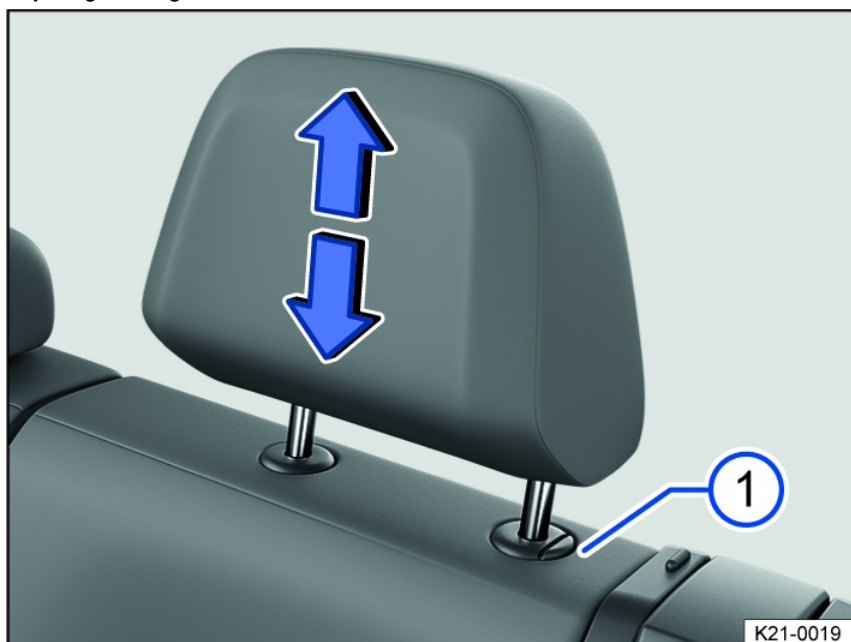

Fig. 64 Adjusting the rear head restraint (general example).
1. If necessary, slide the head restraint upward or downward in the direction of the arrow and when pressing the *fig. 64* button.